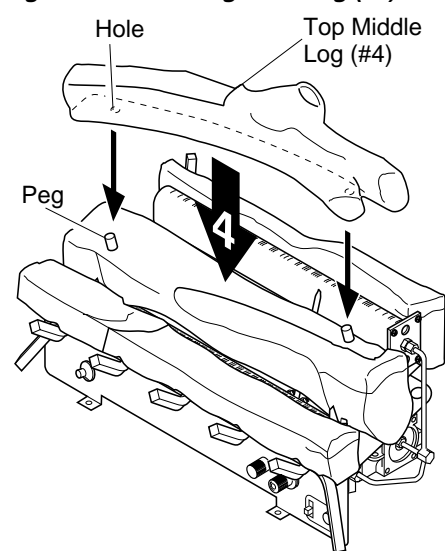

Figure 20 - Installing Crossover Log (#4)
4. Place the top middle log (#4) on the bottom middle log (#2). Make sure the pegs of the bottom middle log fit securely in the holes of the top middle log (see Figure 20).